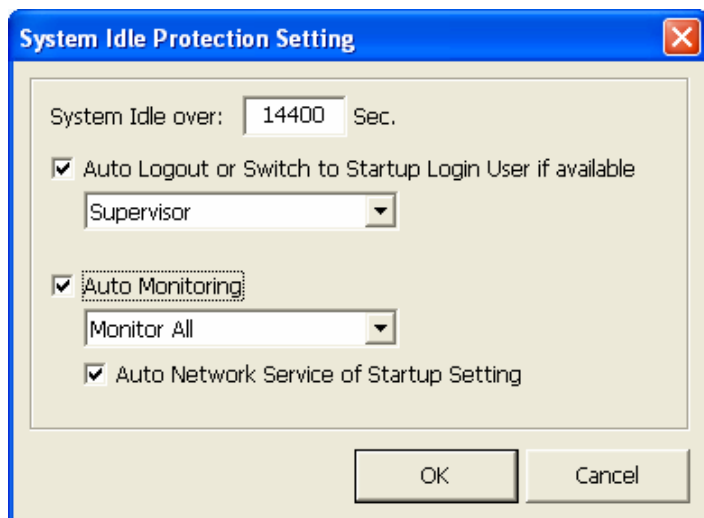

Figure 1-40
4. In the System Idle Protection dialog box (Figure 1-40), enable **Auto Logout or Switch to Startup Login User if available**, and then select **Supervisor** or **Supervisor, Power User** from the drop-down list.
1. In the System Idle Protection dialog box (Figure 1-40), select the **Auto Monitoring** option, and select **Monitoring All**, **Schedule Monitoring**, **I/O Monitoring** or **Camera Monitoring** from the drop-down list. When **Monitoring All** is selected, both **I/O Monitoring** and **Camera Monitoring** will be enabled.